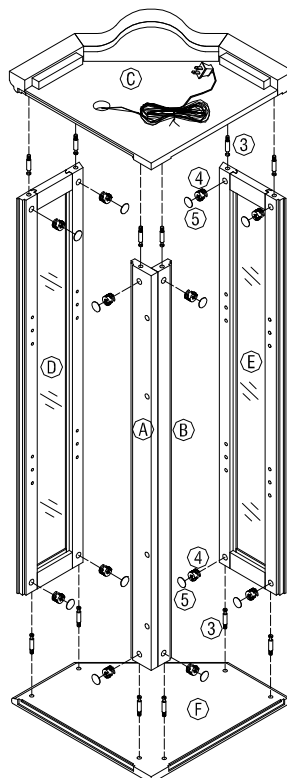

Figure 3
TIGHTEN CAM-BOLTS (3) INTO PREDRILLED HOLES ON UPSIDE OF UPPER SHELF (F) AND FIT INTO CORRESPONDING HOLES ON BOTTOM EDGES OF PARTS (A, B, D, E). INSERT CAM-LOCKS (4) INTO BIG HOLE ON PARTS (A, B, D, E) WITH SLOT FOR SCREWDRIVER FACING OUTWARD. ROTATE CAM-LOCKS (4) CLOCKWISE TO SECURE CAM-BOLTS (3). PUSH COVERS (5) INTO CAM-LOCKS (4). ASSEMBLE TOP PANEL (C) IN SAME MANNER. AS SHOWN IN FIGURE 3.